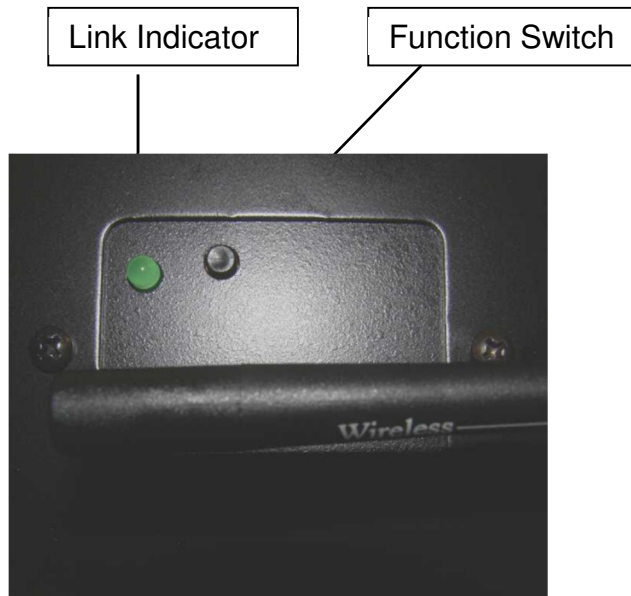

Figure 38: Wireless DMX
- On the LPC back panel, press and hold the **Function** button until the **Link** LED begins flashing, (See Figure 38).